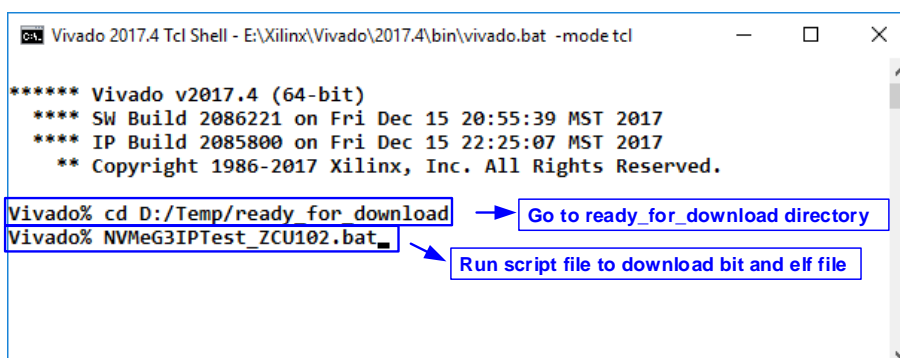

Figure 2-8 Command script to download demo file on Vivado TCL shell
- a) For ZCU102, open Vivado TCL shell and change directory to ready_for_download or directory that batch file is located. Next, type NVMeG3IPTest_ZCU102.bat, as shown in Figure 2-8.